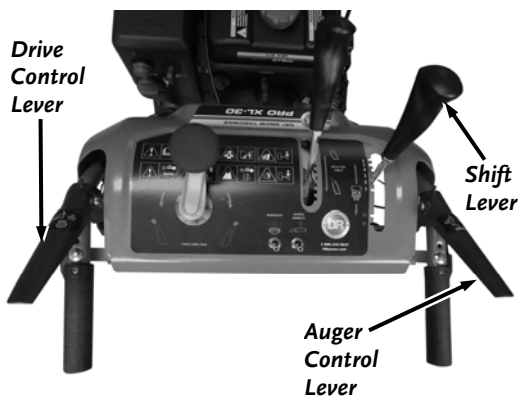

Figure 32
4. Make sure the Snow Blower Auger is clear of snow before engaging the Auger Control Lever (**Figure 32**).